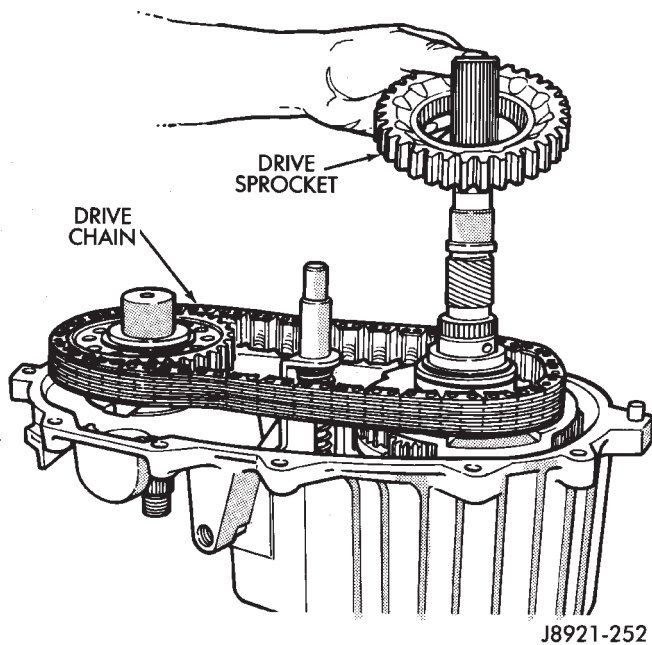

Fig. 24 Drive Sprocket And Chain Removal
- (2) Remove drive sprocket and chain (Fig. 24).